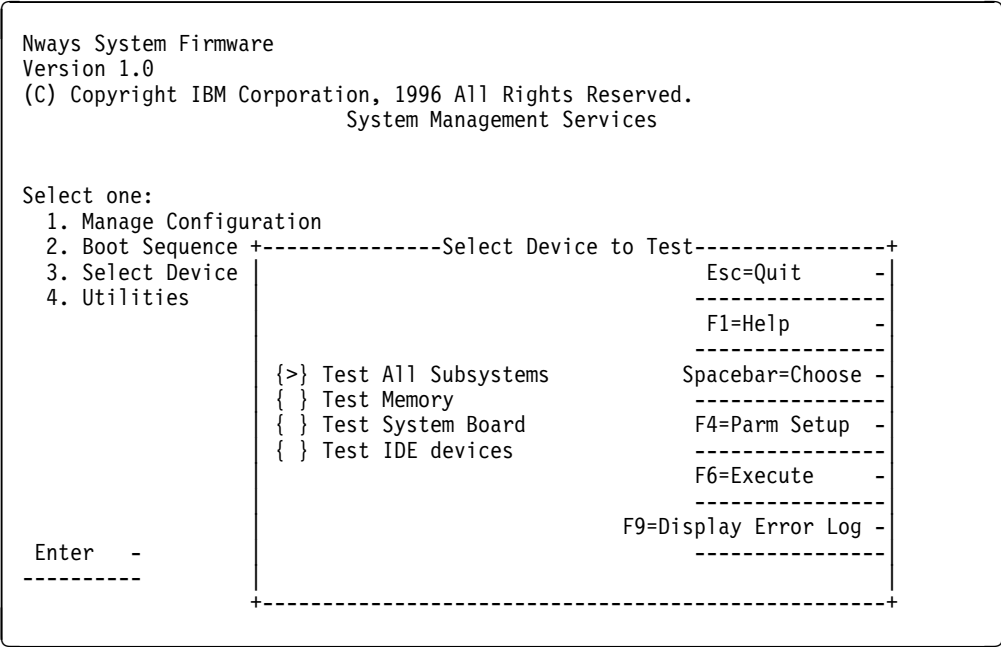

Figure 8-5. Test Selection Panel
2. The Select Device to Test panel is displayed (see Figure 8-5).